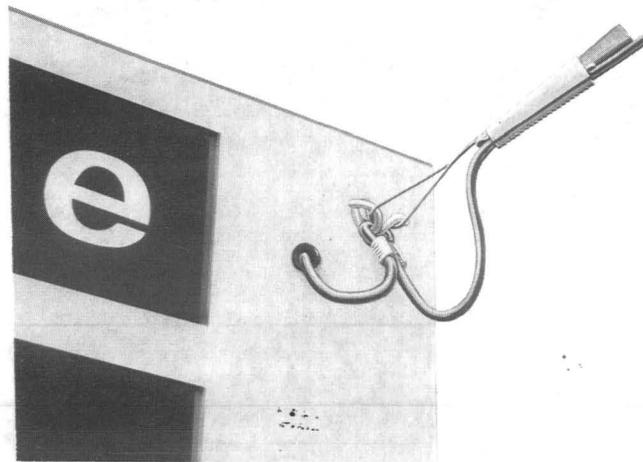
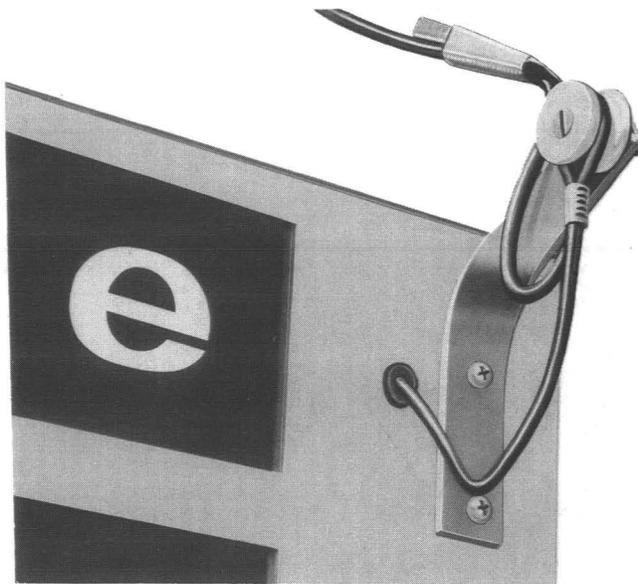

Fig. 12—Drop Wire Hook for First Attachment
Fig. 13—Corner Bracket for First Attachment
3.06 Attach drop wire hook (Fig. 12) or corner bracket (Fig. 13) (whichever is required) on right-rear column adjacent to the entrance hole as follows: